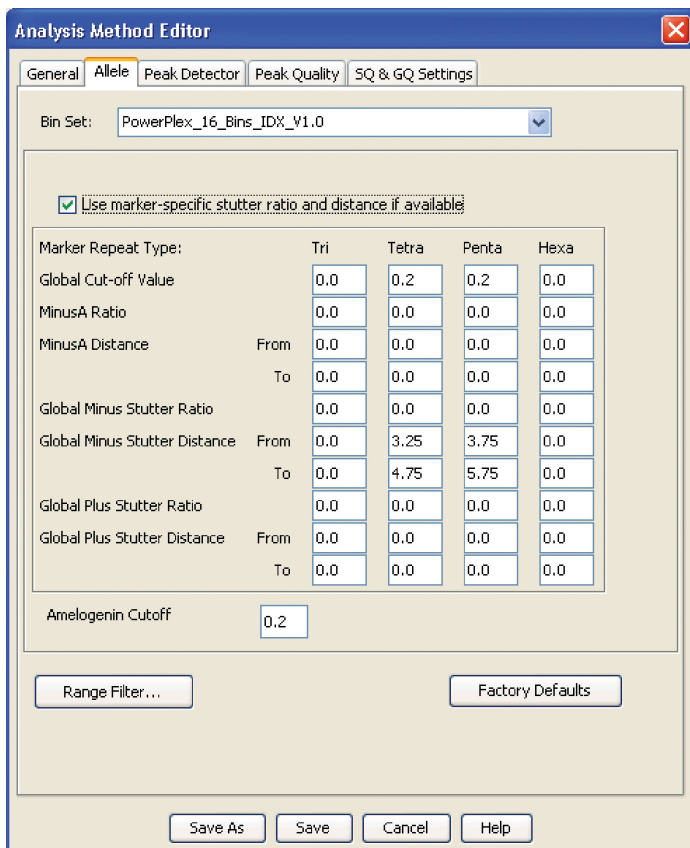

Figure 15. The 'Allele' tab with settings for using a 20% peak filter.
6. Select the 'Allele' tab (Figure 15).
8. Ensure that the "Use marker-specific stutter ratio and distance if available" box is checked. Doing this will assign locus-specific stutter filters and distances from the imported stutter file. Ensure that the appropriate global filter is applied to this analysis method. For example, for a 20% filter enter "0.20" for the Amelogenin Cutoff and Global Cutoff Value for Tri, Tetra and Penta repeats (Figure 15). You may need to optimize these settings. In-house validation should be performed.